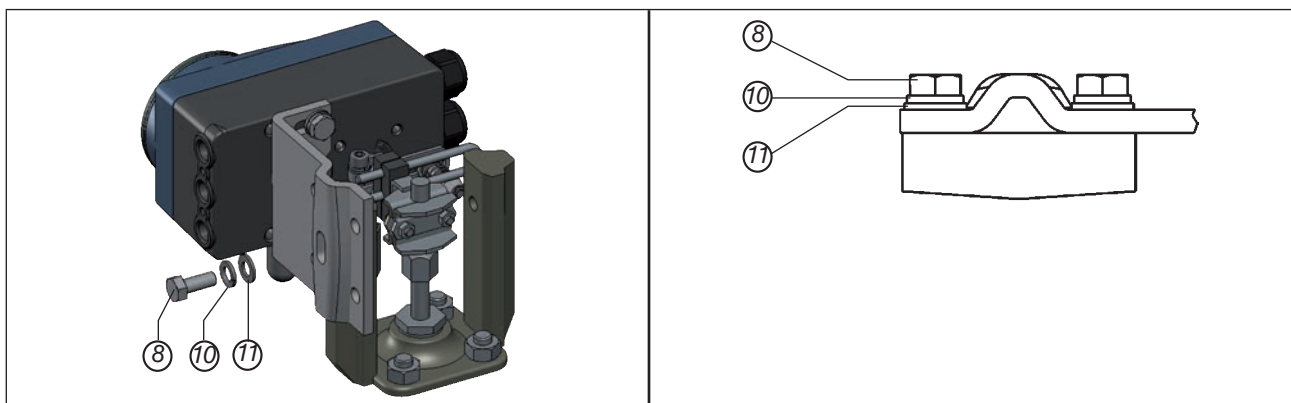

Figure 26: Attach positioner with mounting bracket; for actuators with cast frame
→ Attach mounting bracket to the cast frame with one or more hexagon bolts ⑧, washers ⑪ and circlips ⑩ (see “Figure 26”).